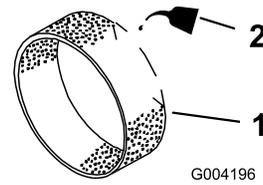

Figure 15
3. Put one or two ounces of oil on the pre-filter (Figure 15).